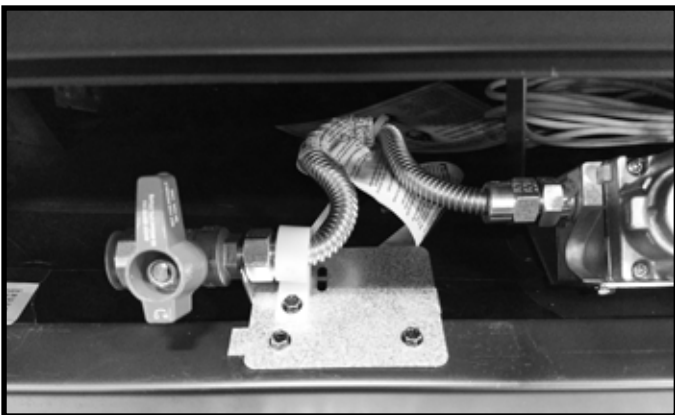

Figure 9.4 Incoming Gas Line Location
**Note:** It is important to plumb the incoming gas line to the location specified inside the appliance. This specific location allows for future serviceability of the appliance. See Figure 9.4